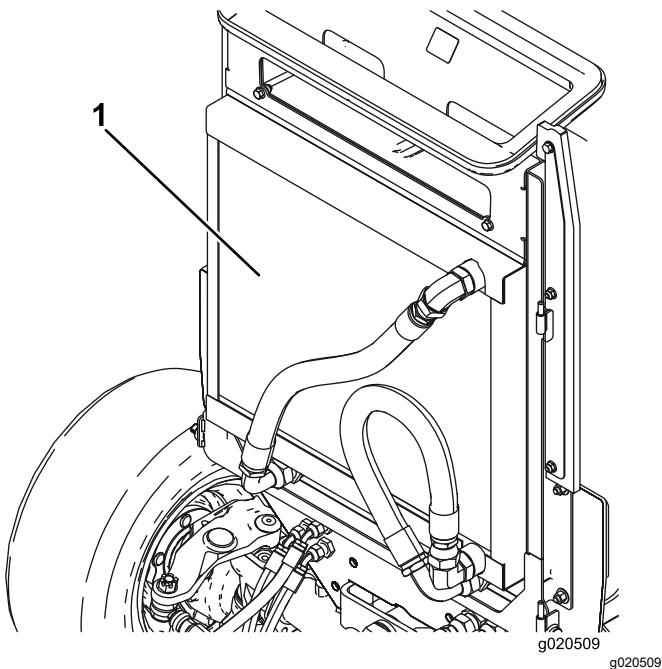

Figure 157
- Clean both sides of the oil cooler/radiator area (Figure 157) thoroughly with compressed air. Start from the front and blow the debris out